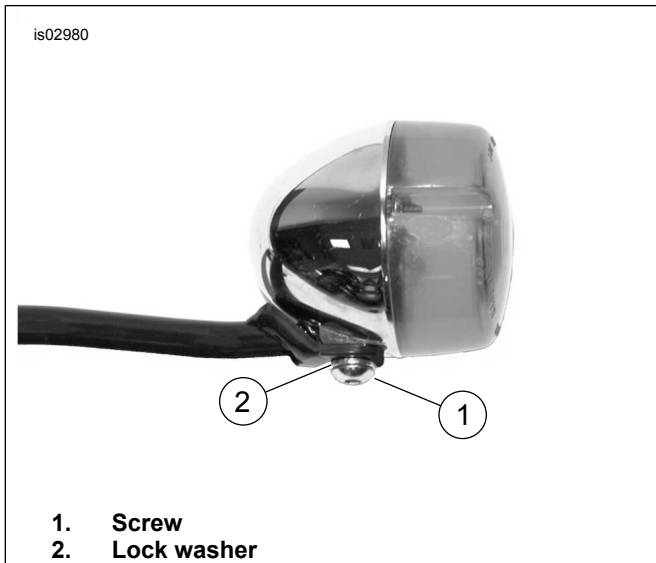

Figure 8. Installing 3 Inch Turn Signals (Standard Style)
3. **Installing 3 inch (Standard Style) Signal Lamps**, see Figure 8. Apply Loctite 243 (Blue) (Harley-Davidson Part Number 99642-97) to screw (1), (Part Number 3538). Using screw and lock washer (2) (Part Number 7041), attach lamp to signal relocation bar as shown. Tighten securely. Repeat Steps 2 and 3 for the opposite signal.